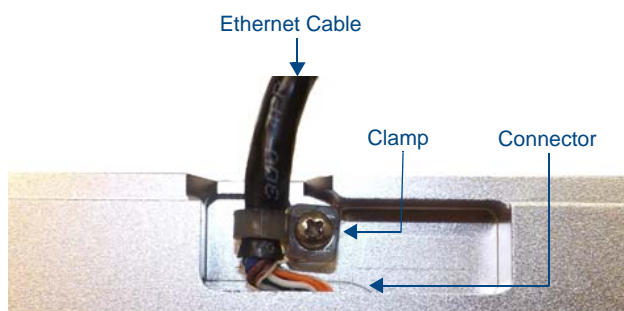

FIG. 20 Bottom of the MXT-700/1000
In tabletop installations where concealing the Ethernet cable is desired, a hole at least 1.00" (2.54 cm) in diameter is required in the surface to allow passage of the female RJ45 connector (FIG. 20). If using a smaller hole is unavoidable, you will need to disconnect the Ethernet cable (**ECA5968-05**) from the device, to feed the male end of the cable through.
2. Remove the clamp holding the Ethernet cable (FIG. 20).